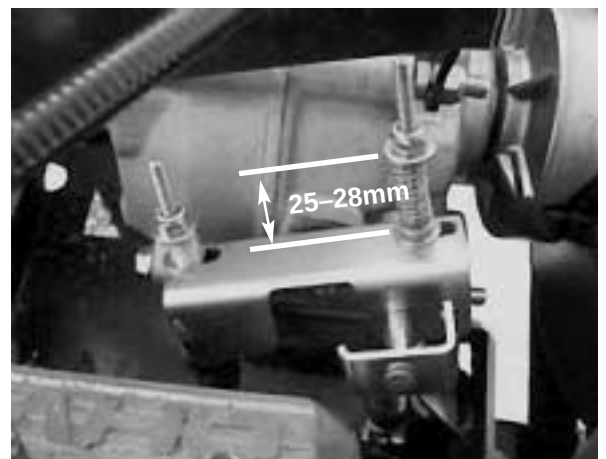

Figure 3
1. Shift the gear selector to FORWARD. Adjust the non-compressed spring height to 25–28mm (1–1-1/8") (Fig. 3).